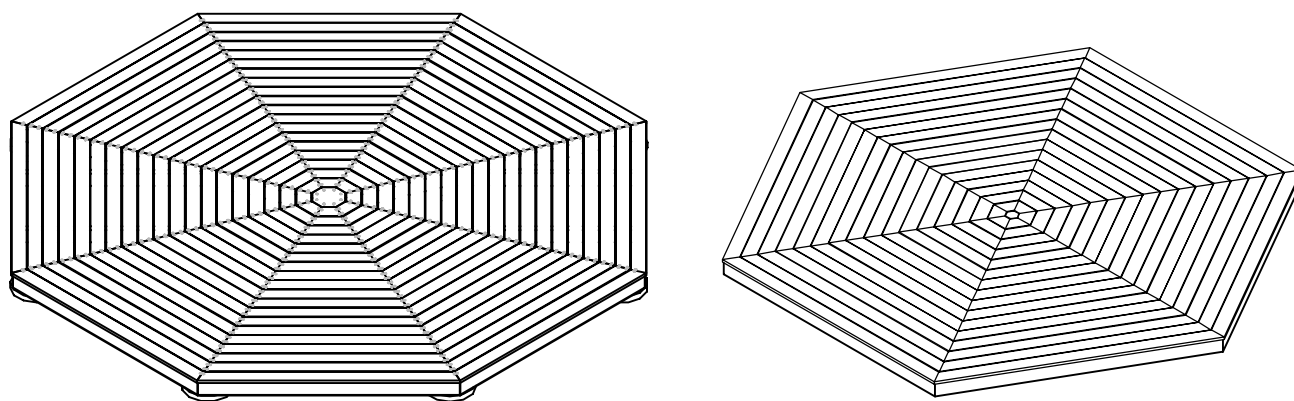

FIGURE S8
- Figure S8 Illustrates finished Floor Decking for both the Octagon and Hexagon Gazebos.